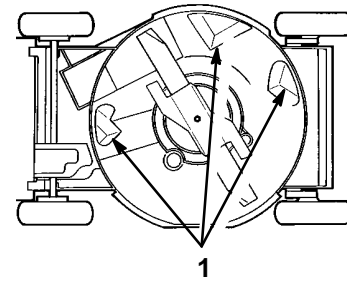

Figure 20
To ensure the best performance, keep the underside of the lawn mower housing clean. Be especially careful to keep the kickers free of debris (Fig. 20).
3. Tip the lawn mower onto its left side (Fig. 20).